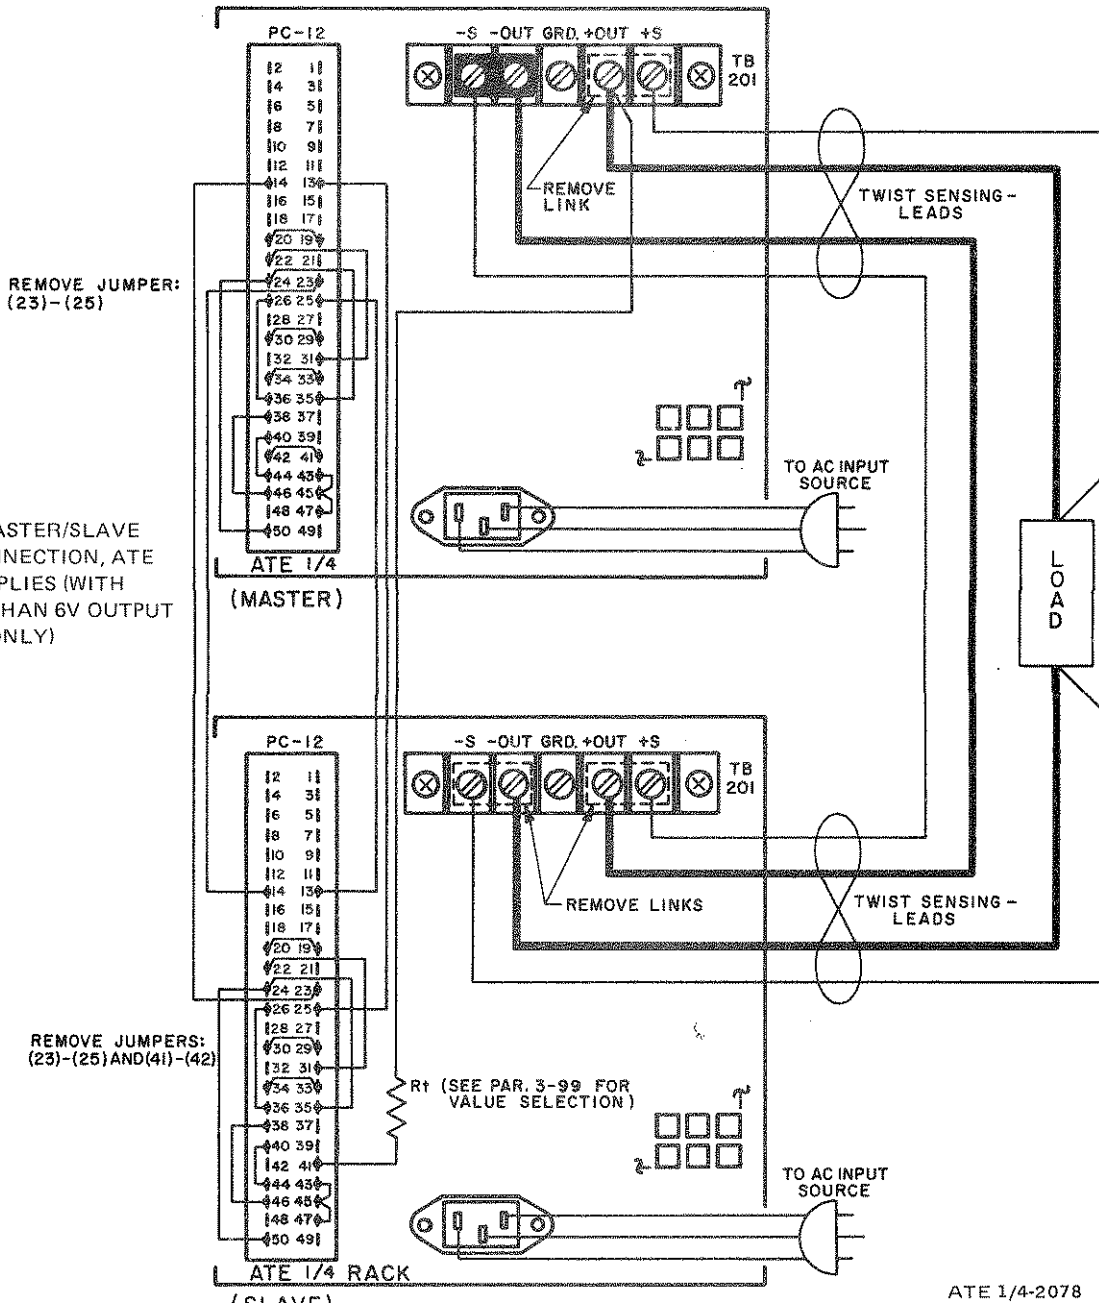

FIG. 3-22 MASTER/SLAVE SERIES CONNECTION, ATE POWER SUPPLIES (WITH GREATER THAN 6V OUTPUT VOLTAGE ONLY)
$R_t = \frac{55\text{V}}{1\text{mA}} - 10\text{K} = 45\text{K ohms}$ , and connecting the system as shown in FIG. 3-22 will produce the desired result.
- 3) Interconnect power supplies as shown in FIG. 3-22. Note: Only one SLAVE unit is shown, but more can be added. Turn MASTER supply VOLTAGE CONTROL to its maximum counterclockwise position.